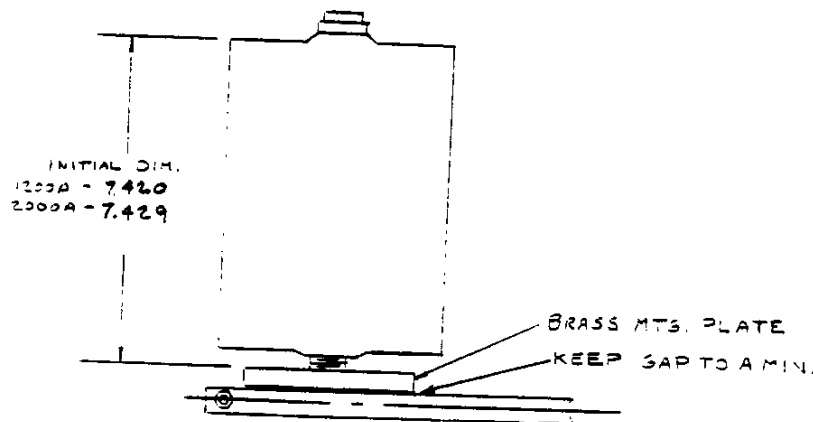

FIG. D-1
3. Install the lower brass plate and the lower terminal on the interrupter with the brass plate set to the initial dimension shown on the layout drawing. SEE FIG. D-1.